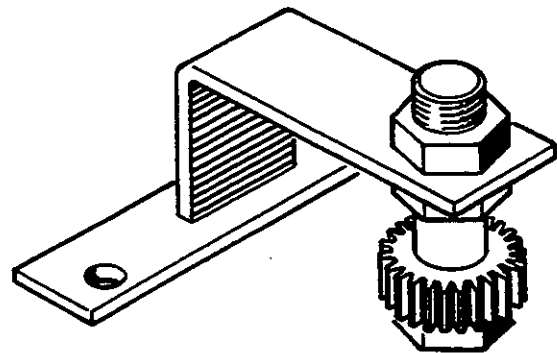

Fig. 23
- Secondary ring gear holding tool, ref. 3376888M1 (Fig. 23)